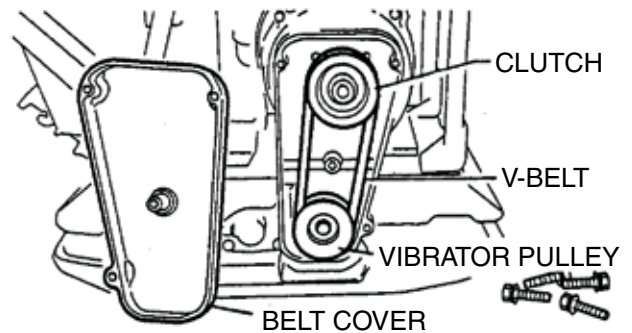

Figure 32. V-Belt Check
- Remove the belt cover (Figure 32). Engage an offset wrench 3/4" (19 mm) or the like to vibrator pulley (lower) fastening bolt. Engage wastecloth or the like at midway of V-belt on the left side and while pulling it back strongly, rotate the offset wrench clockwise so that the V-belt will come off.